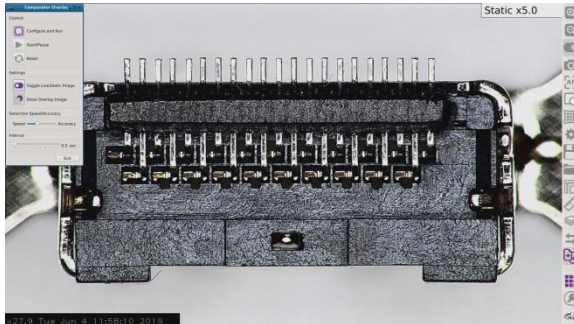
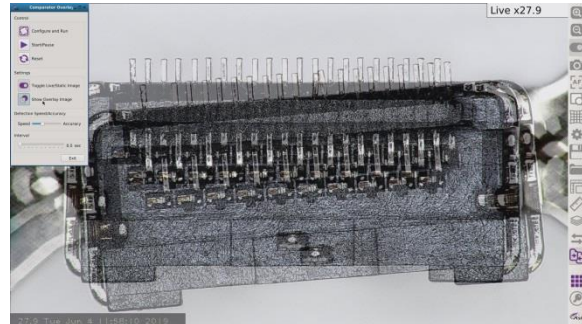

Fig. 40a Golden Sample
Fig. 40b Golden Sample & Test Sample Overlay
The Image Overlay Comparator is ideal for comparing multiple parts against an image of a known good part (see below Fig. 40a & 40b). Any differences between the two parts will appear to ‘flash’ as the images are alternated. Below are instructions for using the Image Overlay Comparator to compare two identical parts. One is the ‘test sample part’ which will be compared to the ‘golden sample part’.
**6.** Open the Comparator App and select and open the 'Golden Sample Part' image (Fig. 40a). An Overlay image (Fig 40b) allows the alignment of both the 'Golden Sample' and the next sample to be compared. Exact alignment is not required as the app can adjust for any misalignment up to 30° rotation or X-Y movement around the FOV.